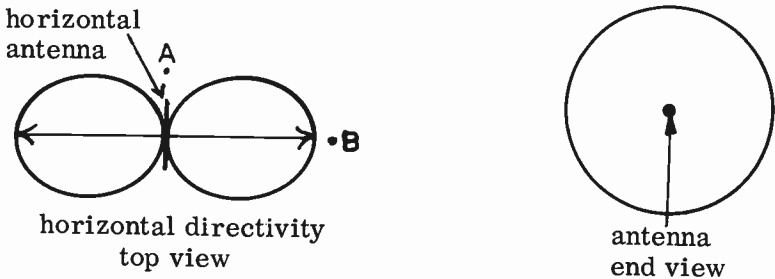

FIG. 17-13. DIRECTIONAL TRANSMITTING PATTERNS OF A HORIZONTAL ANTENNA.
**DIRECTIONAL CHARACTERISTICS OF ANTENNAS.** A horizontal transmitting antenna radiates well in the two directions broadside (at right angles) to the length of the antenna. It radiates poorly in the direction along the length of the antenna. This is shown in Fig. 17-13. Fig. 17-13A shows the "figure 8" directional transmitting pattern of a horizontal antenna as viewed from the top. A receiver at point A would receive very little compared to one at point B.